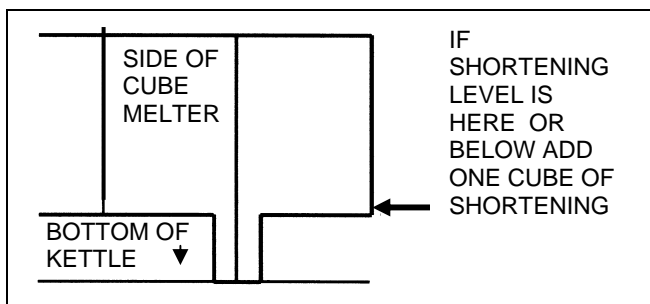

Figure 1-9. When to Add a Cube of Shortening.
10. As needed, add shortening to the kettle, one cube at a time. Always add a cube if the shortening level drops to the tops of the legs of the cube melter. (See Figure 1-9 & 1-9A.)